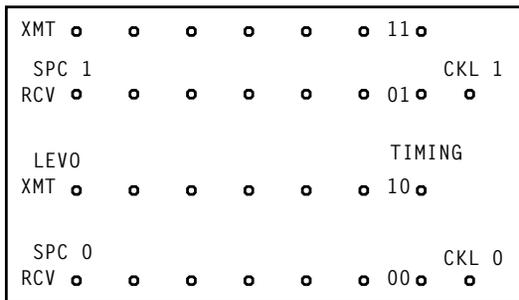

FIG. 1 - TSI Port Locations (J4A001A)
[1] At TSI frame, disconnect T and R coaxial cables (2) from TSI port (SPC and level No.) associated with degrown VIU/DTU/DIU. See FIG. 1 (TSI) or FIG. 2 (TSI-2)